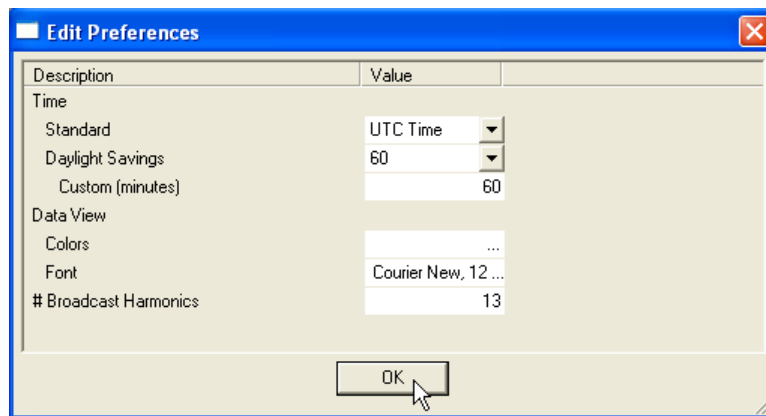

Figure 6.2: Edit Menu, Preferences
- **Preferences.** selects window for setting various time and date viewing preferences. Select colors of signals in Waveform and Phasor views. Click the Edit menu to open. See Figure 6.2.